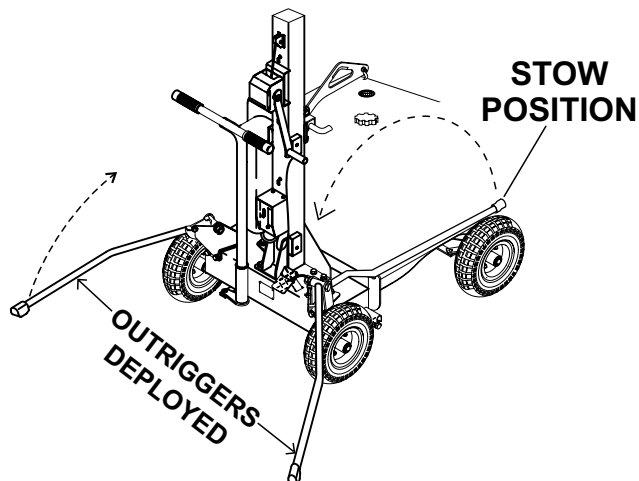

Figure 6. Outriggers (Deployed Position)
3. Lift up on each outrigger (2) from its stow position, rotate backwards and place it in the deployed position, as shown in Figure 6. The outriggers will automatically lock in place once they touch the ground.